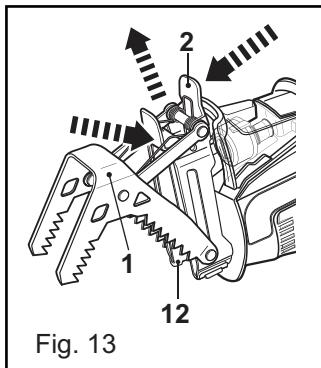

Fig. 13
- To remove, press the serrated gripping jaw release lever (2) and remove the serrated gripping jaw by lifting (1) from the serrated gripping jaw support rail (12) (fig. 13).
- Remove the SERRATED GRIPPING JAW from the product.(Fig. 13).